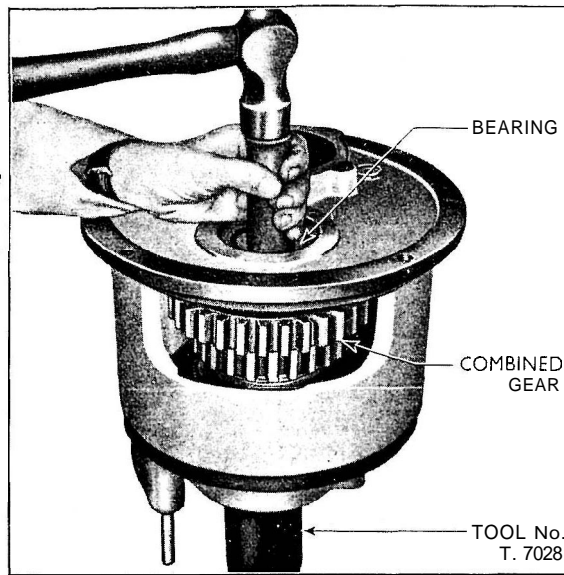

Fig. 26
7. Locate the body of the primary upper shaft dog nut wrench Tool No. T.7028 on the primary lower shaft dog and drive the primary lower shaft into the tool. Remove the primary lower shaft and Tool No. T.7028 and then remove the lower shaft gear and power take-off cluster gear. (See Fig. 26.)